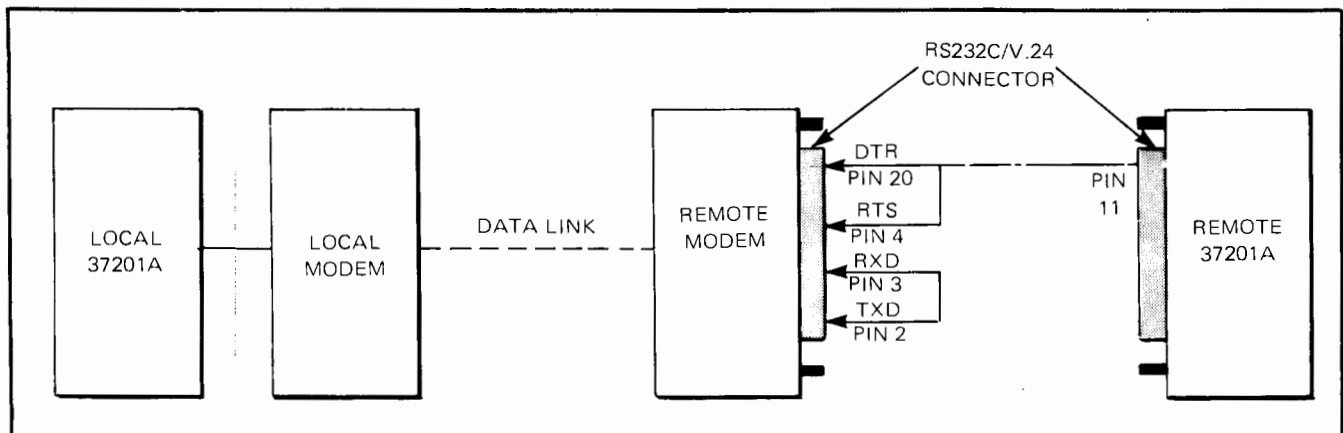

Figure 3-12 Remote Modem Loopback Configuration
- a) Remove the remote modem to 37201A RS232C/V.24 interconnecting cable, and connect the modem Transmit line (RS232C/V.24 Pin 2) to the modem Receive line (RS232C/V.24 Pin 3) – see Figure 3-12.